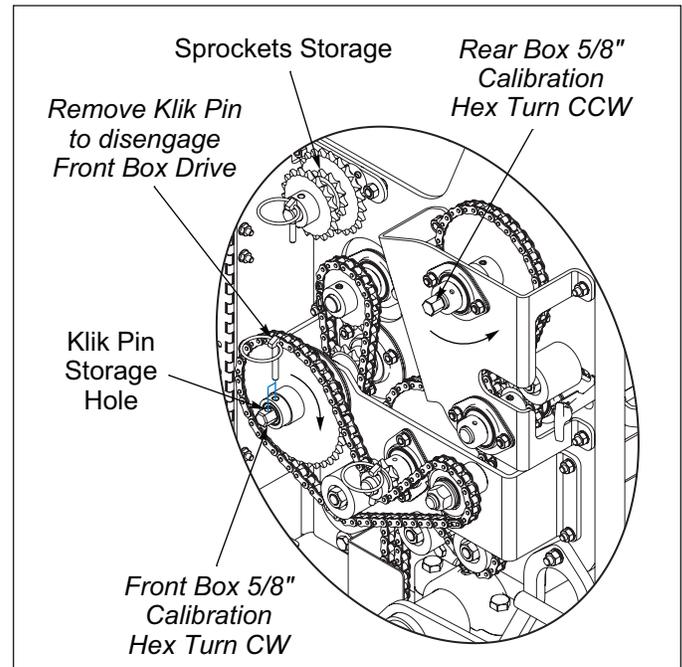

Figure 3-17: Front Box Drive Klik Pin
3. Remove Front Box Drive Disconnect Klik Pin from the Front Box 5/8 Calibration Hex. **See Figure 3-17.**
4. **Prime Meters:** Turn Front Box 5/8" Calibration Hex Clockwise (CW) until all Meters are discharging seed. Empty Calibration Trough or Tarp.
5. Turn the Front Box 5/8" Calibration Hex Clockwise (CW).
3. **Prime Meters:** Turn Rear Box 5/8" Calibration Hex Counterclockwise (CCW) until all Meters are discharging seed. Empty Calibration Trough or Tarp. **See Figure 3-17.**